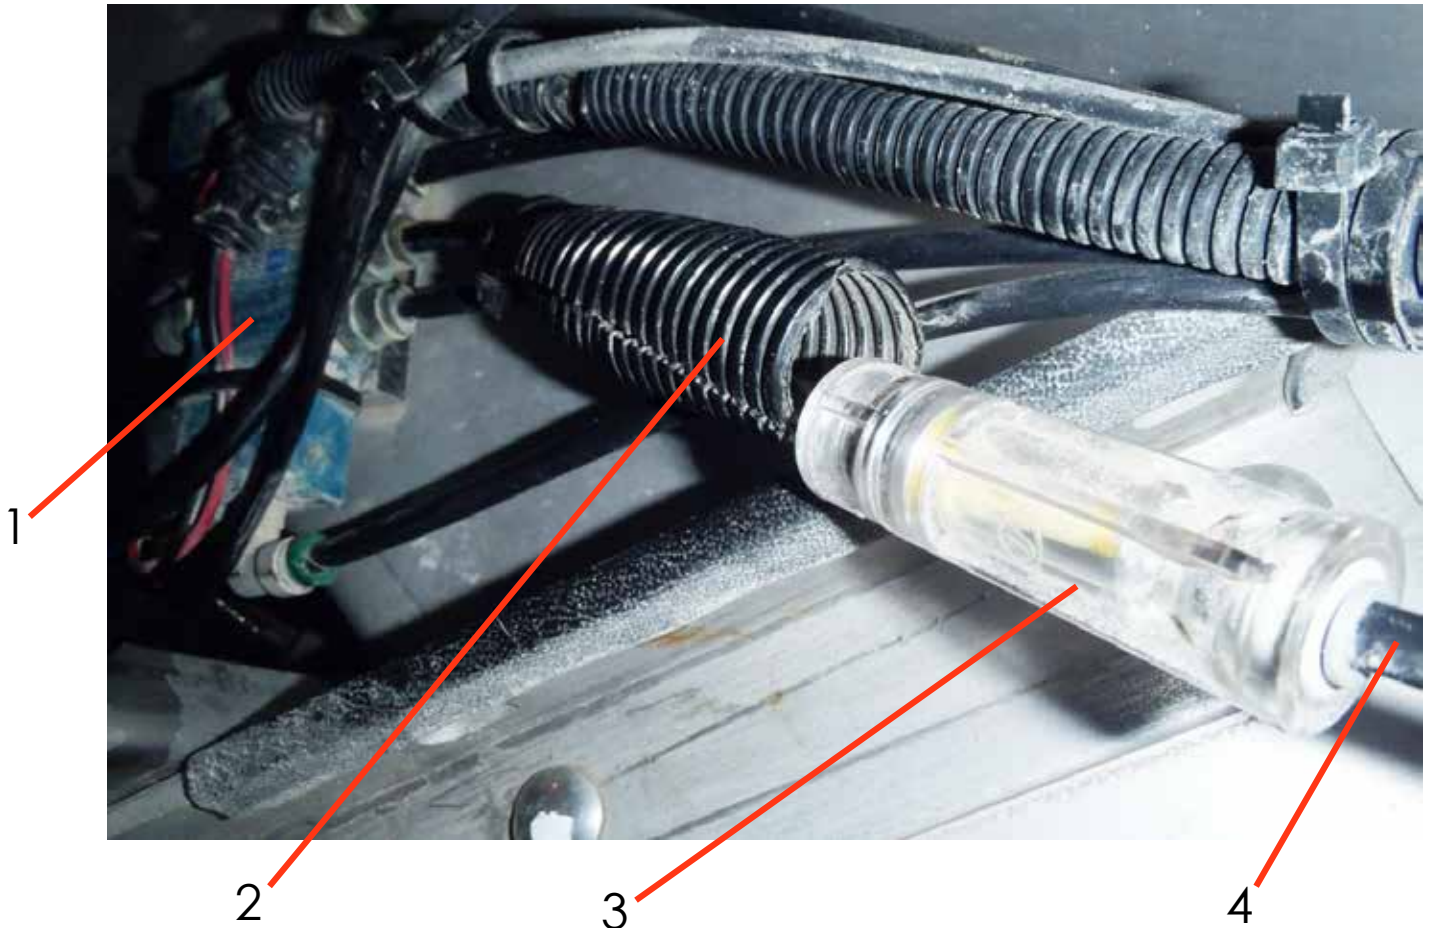

Figure 20
20. Figure 20 - Clean air supply tube (4) and cut to length as needed. Install air supply tube into inline filter (3) on control valve assembly (1). Push firmly to seat tube into filter. Slide corrugated tube (2) over inline filter.